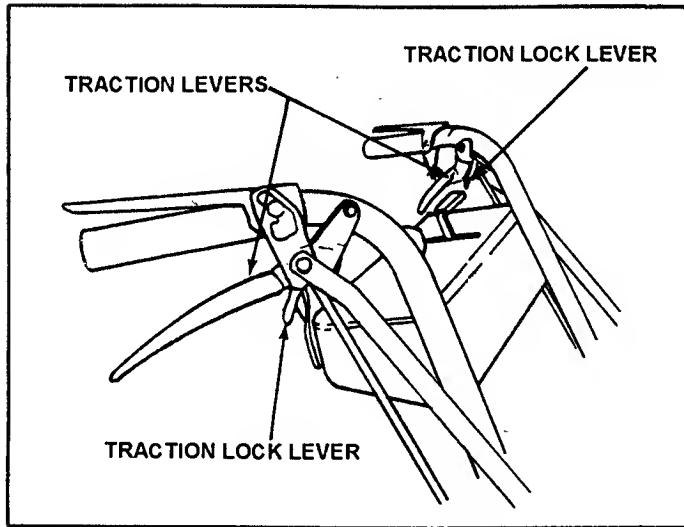

FIGURE 15
b. Pull the Blade Clutch Switch backward to the OFF position. See Figure 15.
- 7b. PISTOL GRIP - TO STOP MOWER, simultaneously squeeze both Traction Levers firmly against the handle while pulling the Traction Lock Lever rearward with index finger until latched. See Figure 15